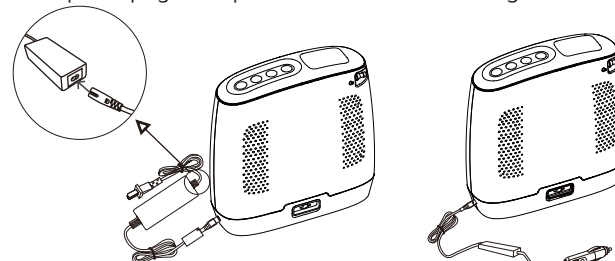

Figure 7
- › When operating, connect the power output plug into the Spirit-3 then connect the AC power plug to the power source. As shown in Figure 7.